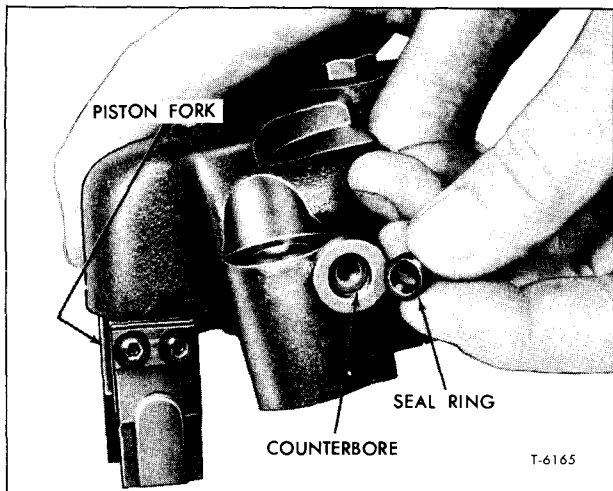

Figure 38—Oil Connector Seal Ring
6. Place oil connector seal ring in counter-bore oil hole in oil supply housing(s) (fig. 38).
9. Observe oil connector seal ring (fig. 38) and if necessary use narrow screwdriver to seat the seal squarely in counterbore in housing and